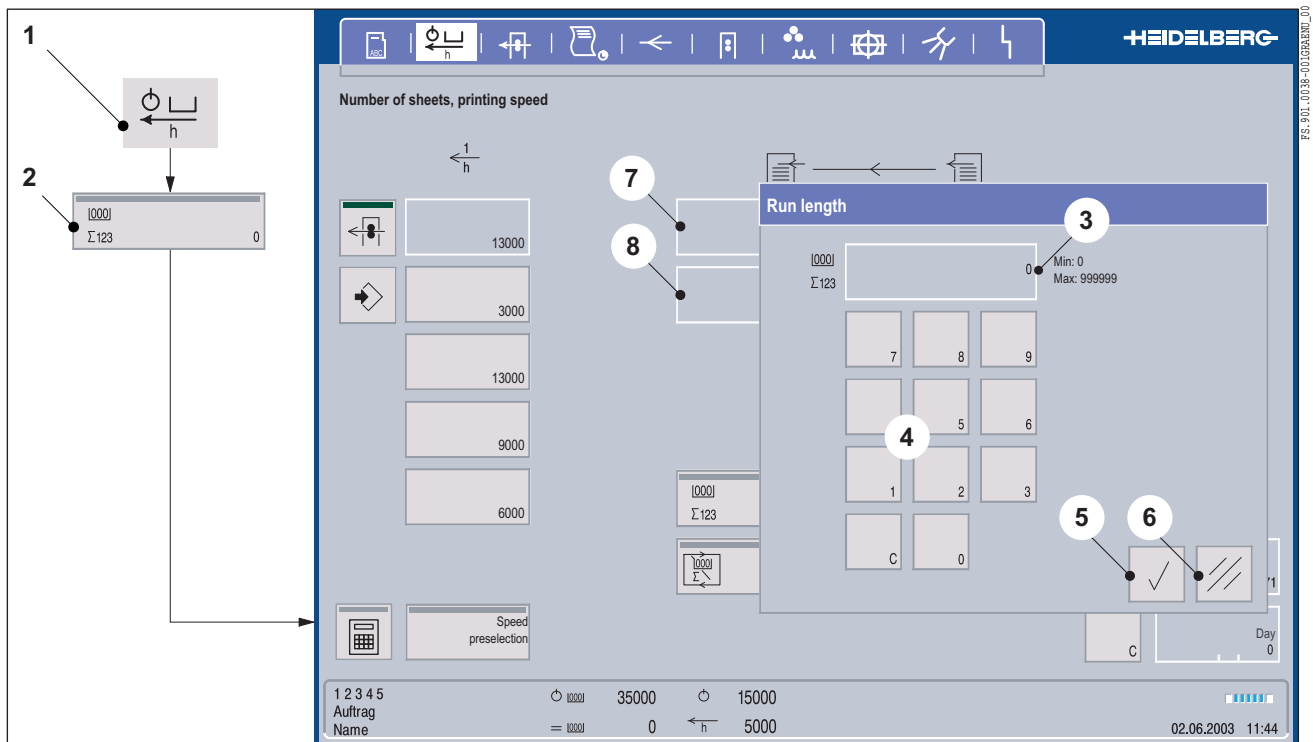
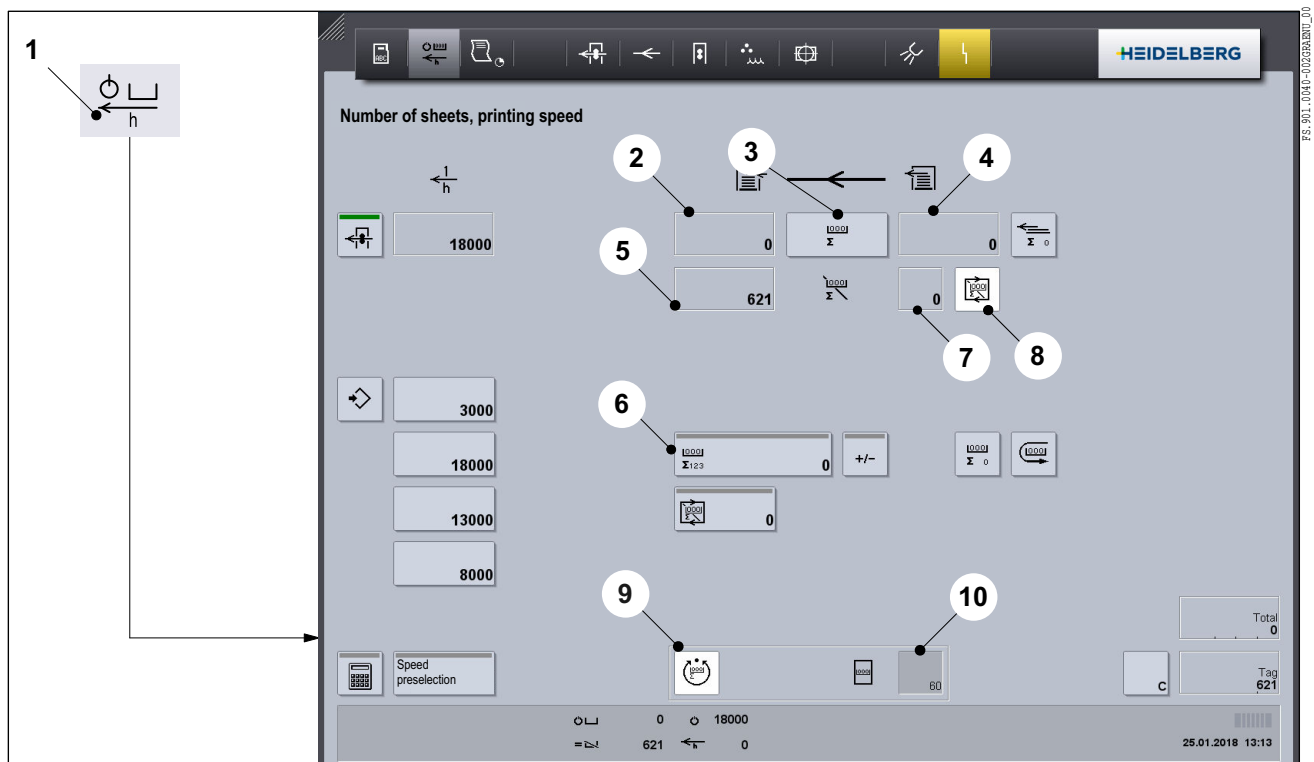

Fig. 2 Run length window
Fig. 4 Number of sheets, printing speed menu
1. Press the *Number of sheets, printing speed* button (Fig. 2/1) in the headline. The **Number of sheets, printing speed** menu appears.
2. Press the *Desired number of sheets* button (Fig. 2/2). The **Number of impressions** window (Fig. 2) appears.
3. Enter the desired number of sheets using the numeric keypad (Fig. 2/4). The value appears in the display panel (Fig. 2/3). If you confirm your entry, the job counter (Fig. 2/7) and the waste-sheet counter (Fig. 2/8) are reset to 0.
4. Confirm the input: Press the *OK* button (Fig. 2/5).
Abort the process: Press the *Delete* push button (Fig. 2/6).
3. To confirm your entry: Press the *OK* button (Fig. 2/6).
To cancel the operation: Touch the button *Delete* (Fig. 2/7).
In the **Number of sheets, printing speed** menu (Fig. 4) you can set the job counter and the waste-sheet counter for the current print job.
1. Press the *Desired number of sheets* button (Fig. 4/6). The **Number of sheets/Number of impressions** window (Fig. 2) appears.
2. Use the numeric keypad (Fig. 2/4) to enter the desired number of sheets. The value appears in
the display panel (Fig. 2/3). If you confirm your entry, the job counter (Fig. 4/2) and the waste-sheet counter (Fig. 4/5) are reset to 0.
3. Switch the job counter (Fig. 4/3) off. Printed sheets are counted on the waste-sheet counter (Fig. 4/5). If the makeready interval counter (Fig. 4/8) is switched on, the printed sheets are deducted from the "makeready interval for the residual number of impressions" (Fig. 4/7).
4. As soon as you are no longer producing any more waste sheets, switch the job counter (Fig. 4/3) on. The waste-sheet counter (Fig. 4/5) stops counting. The printed sheet are counted by the job counter (Fig. 4/2).
1. Press the counter value (Fig. 4/10).
3. Activate the function "Start good-sheet counter automatically" (Fig. 4/9).